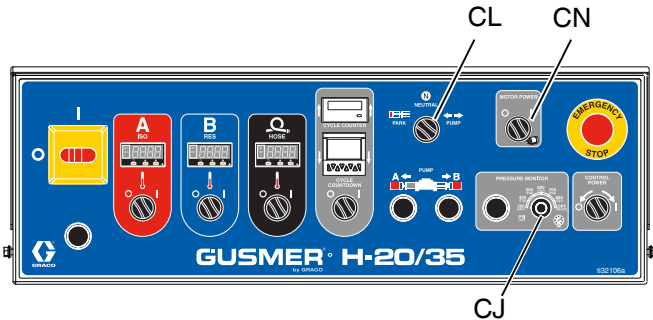

FIG. 39
9. Turn pressure monitor knob (CJ) to OFF. See Fig. 39.
- Start hydraulic motor by turning on motor power switch (CN). Then turn pump control switch (CL) to PUMP.